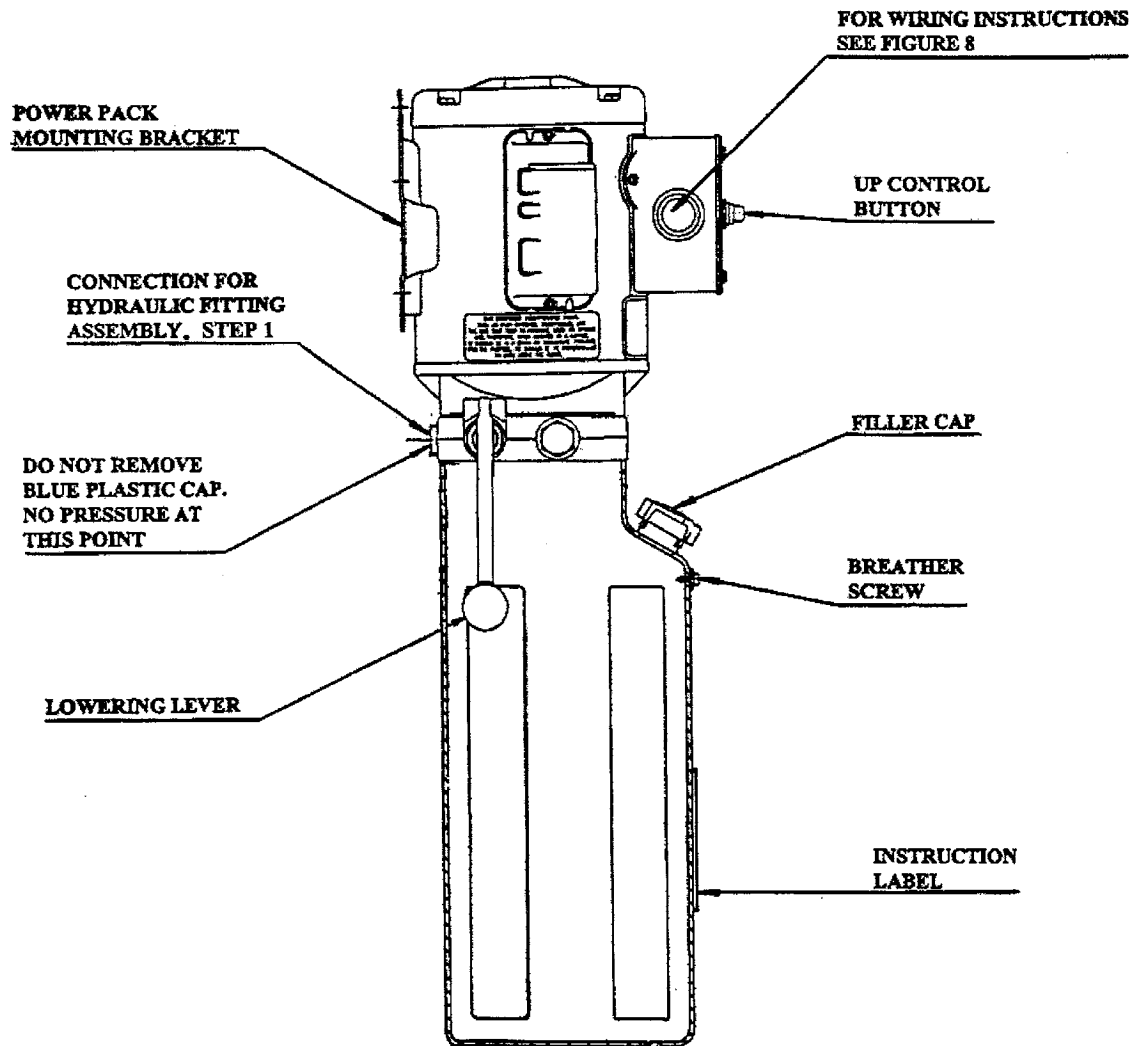

Figure 7 – Powerpack Details
11. Remove filler cap from power pack, and fill reservoir with 3.5 Gal. (13.2 L) of ISO32 hydraulic oil (10 weight hydraulic oil). Remove breather screw when filling and replace when full. Refer to **Figure 7**.